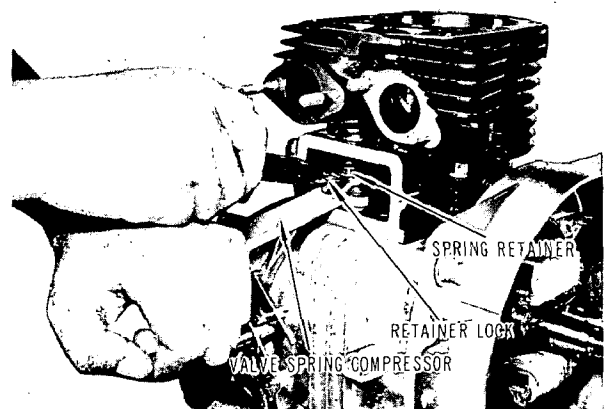

Fig. 6-3-2
- 2) Detach retainer locks and valves by lifting valve spring using a valve spring retainer. Proceed in the same way both for intake valve and exhaust valve. (Fig. 6-3-2) Then, remove valve springs and spring retainers.